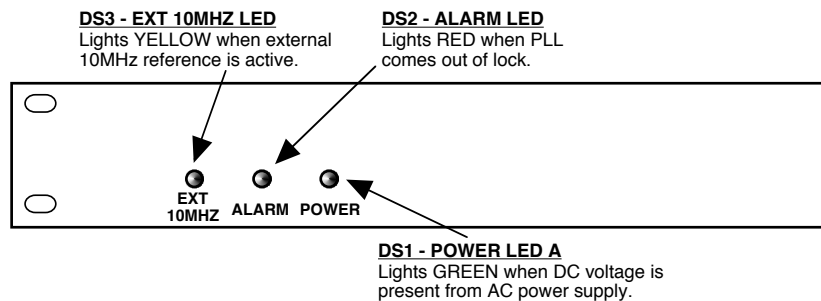

FIGURE 2.2 2116-182202 Front Panel Controls and Indicators
- 4.) Be sure DS1 (green, DC Power) is on and DS2 (red, Alarm) is off (Figure 2.2).
- 6.) If EXT is selected or AUTO is selected and there is a 10MHz, 0 dBm signal at J2, check that DS3 (yellow, Ext 10MHZ) is on (Figure 2.2).